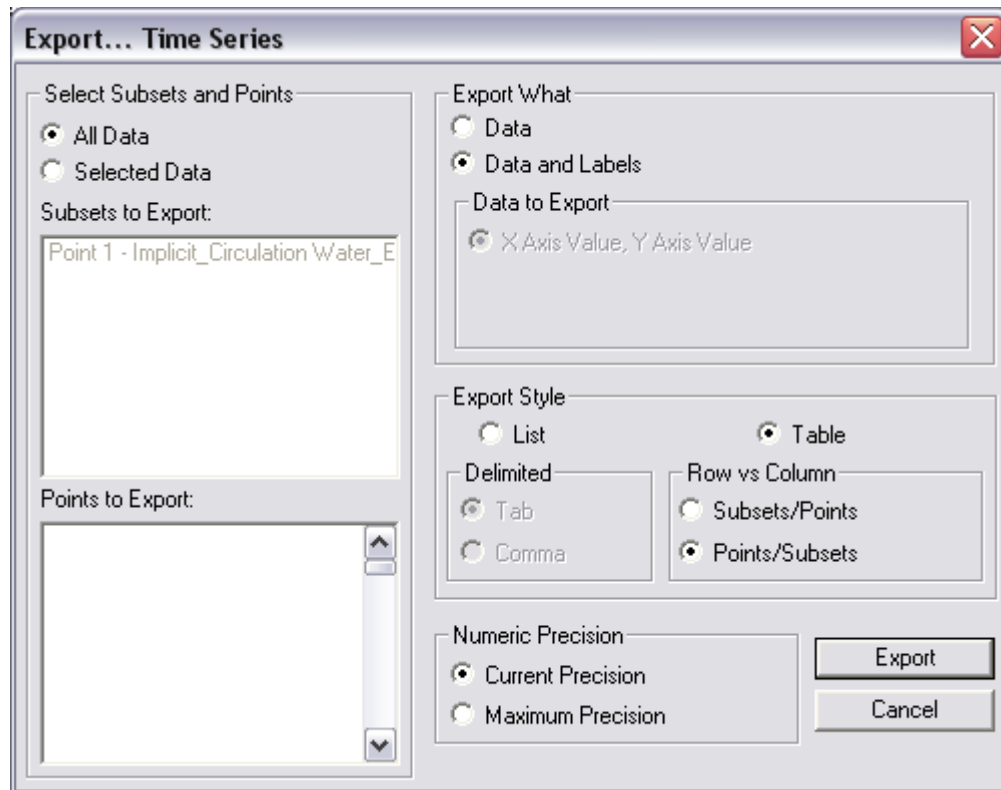

Figure 8.1.5. Export Wizard for plotted data.
4. To extract the raw data for use in other software right-click on the graph window and select *Export*. In the *Exporting Time Series* window, select *Export|Text/Data*, *Export Destination|File* (and specify a location), and select *Export*. Change the *Export Style* to *Table* and *Row vs. Column* to *Points/Subsets* (Figure 8.1.5). *Export*.